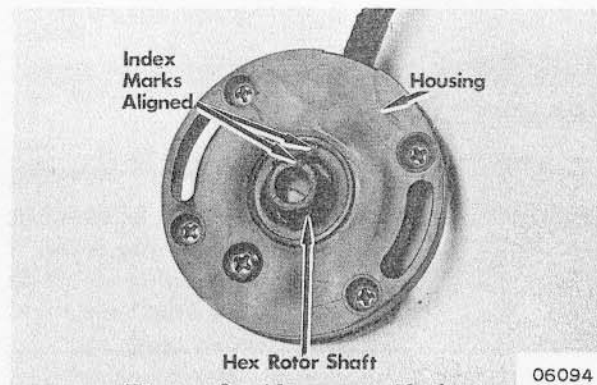

Figure 3 . Alignment Marks
1. Align marks on housing and hex rotor shaft (Figure 3) before installation.